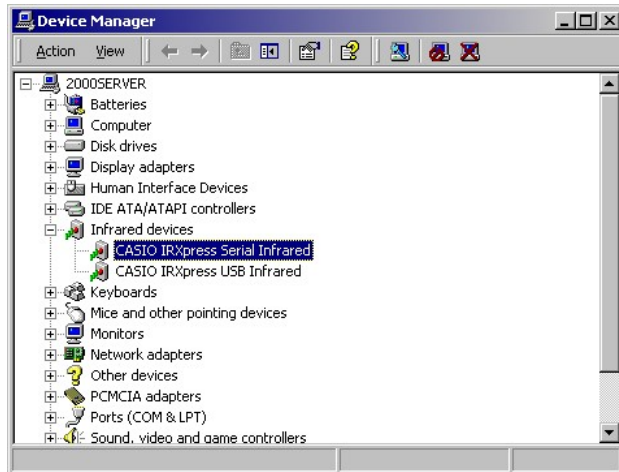

Figure 5.30
4. Right-click **CASIO IRXpress Serial Infrared** in the Infrared devices menu (see Figure 5.30) and choose **Properties** in the menu.